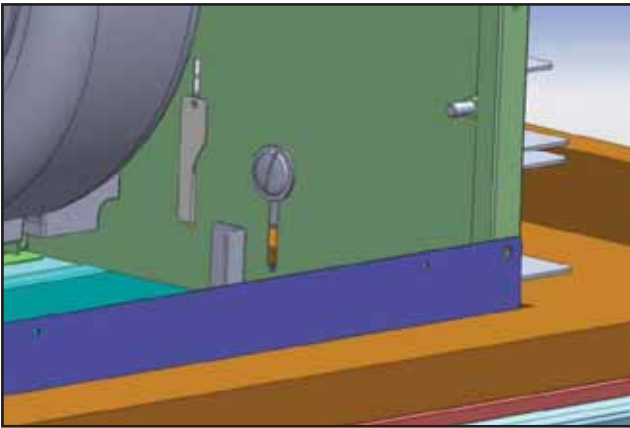

Fig.7
6) **24" Models Only.** From inside the hood, secure (1) M4x8 screw into each lower installation bracket. The position of this screw is adjustable to accommodate various cabinet bottom thicknesses, Fig.7.